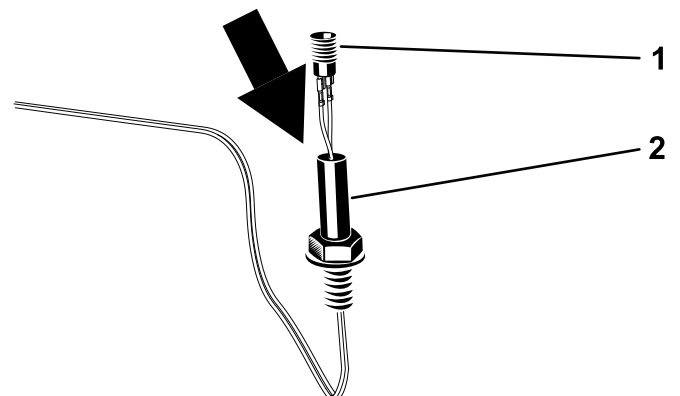

Figure 7
4. Install the beacon connector into the beacon socket by rotating the beacon socket (Figure 7).